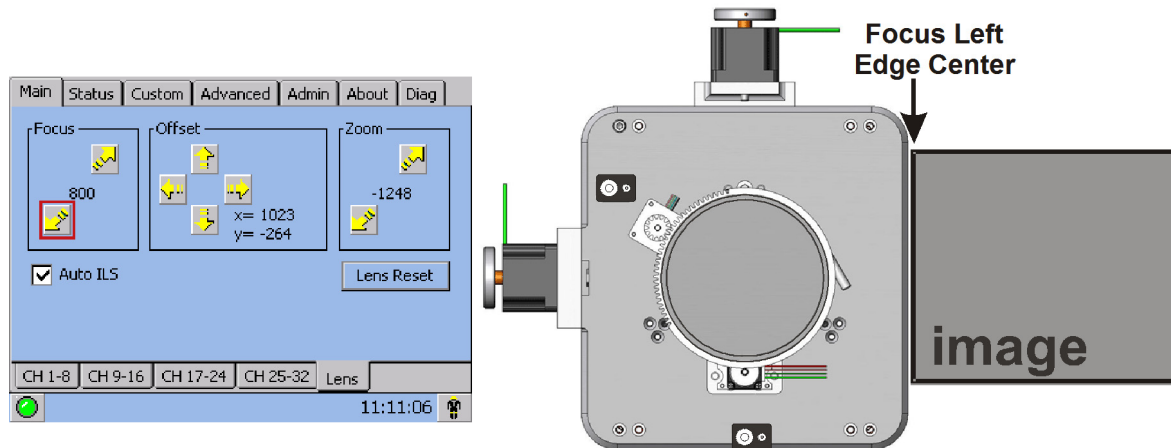

Figure 2-40 Adjust Focus
3. Adjust the **Focus** to retract the lens using the down arrow on the **Main: Lens** menu. See **Figure 2-40**. Watch the image at the left edge of the screen until it comes into focus. If the image appears well-focused on the left edge but not on the right, determine if the right side focuses in front of or behind the screen. If the entire screen come into focus, skip to step 7.